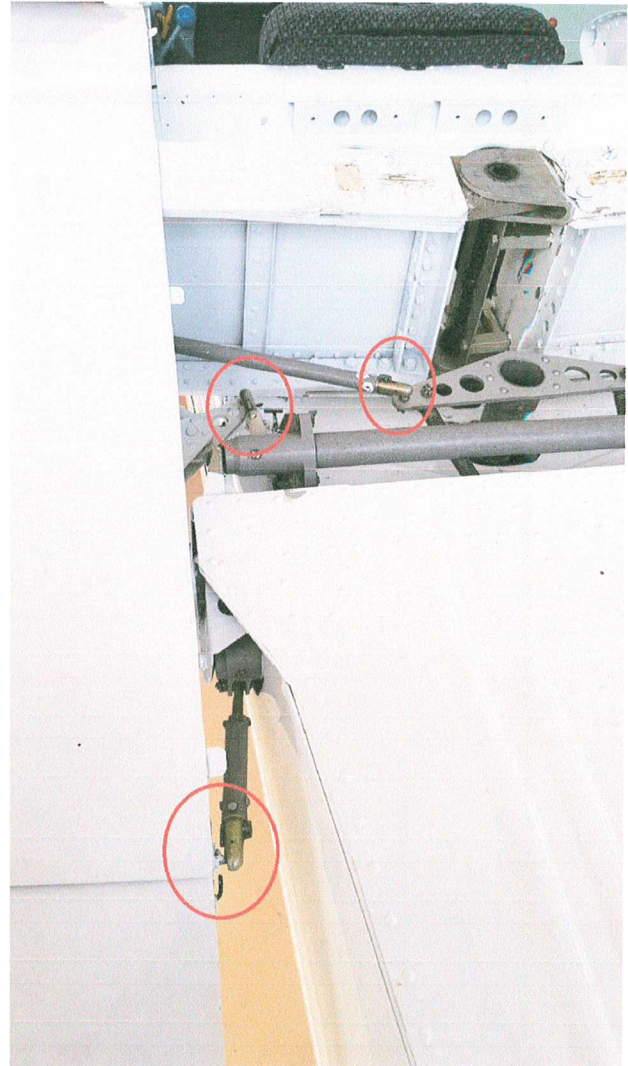

Fig. 2 (for IS 28B2 example)
1. Unmount the fairing/cover between the wings (**see fig.2** for IS 28B2 example)